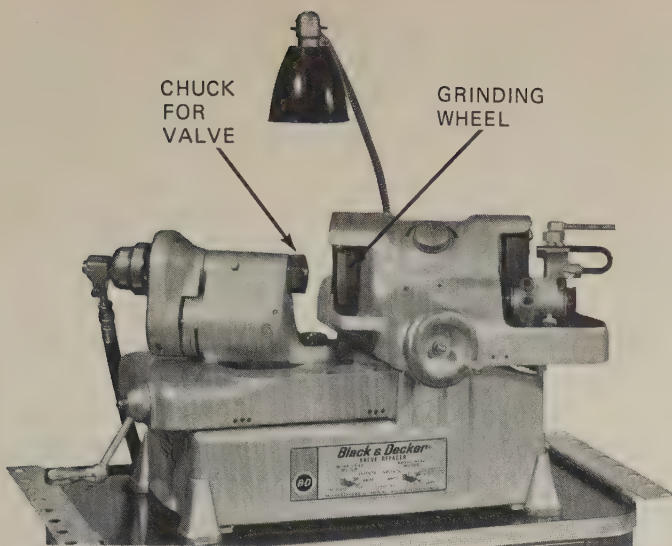

FIG. 32-22 Valve-refacing machine, also called a valve grinder. (Black and Decker Manufacturing Company)
**○ 32-12 REFACING, OR GRINDING, VALVES** If the valves are good enough to reuse, the next step is to reface, or grind, them. This process requires a valve-refacing machine like the one shown in Fig. 32-22. The machine has a grinding wheel, coolant delivery system, and chuck that holds the valve for grinding. Set the chuck to grind the valve face at the specified angle. This angle must just match the valve-seat angle or be the interference angle recommended by the engine manufacturer. Then put the valve into the chuck and tighten it. The valve should be deep in the chuck, so that not too much sticks out. Otherwise the valve can slip during grinding, and the result will be a poor grinding job.